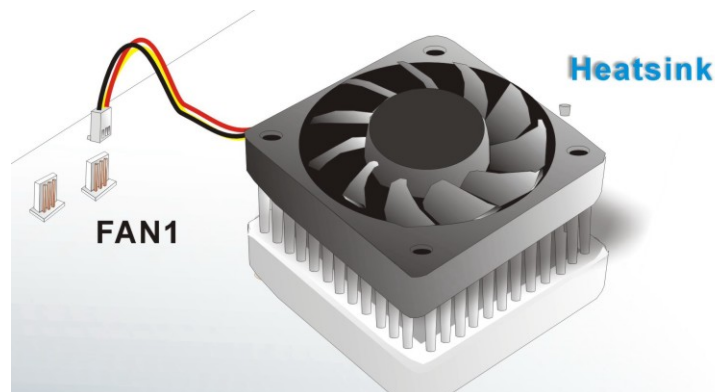

Figure 5-4: Connect the cooling fan cable
Step 5: Connect the fan cable. Connect the cooling kit fan cable to the fan connector on the motherboard. Carefully route the cable and avoid heat generating chips and fan blades. See **Figure 5-4**.